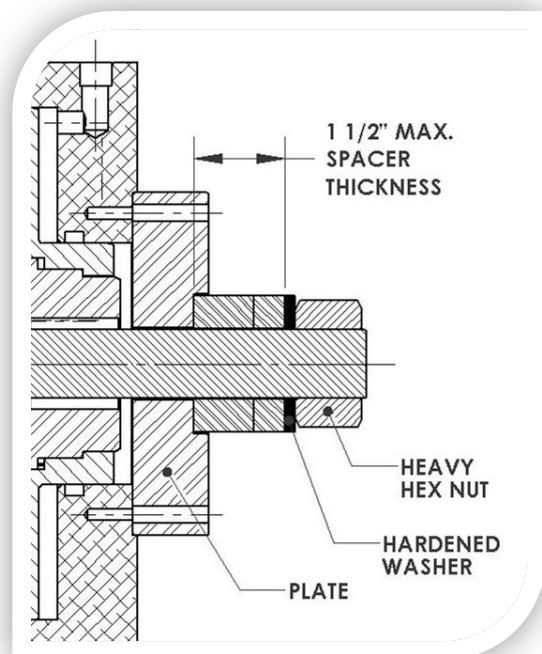

Figure 1, CROSECTION THRU CALIBRATOR, MAXIMUM SPACER THICKNESS
- Unique to ROCAP testing we do not recommend that you use more than 1-1/2" of spacers between the plate and the hardened washer. See Figure 1. Exceeding this distance from the face plate combined with the extra torque required to do a ROCAP test can cause large bending loads on the bolt which can cause inaccurate results.